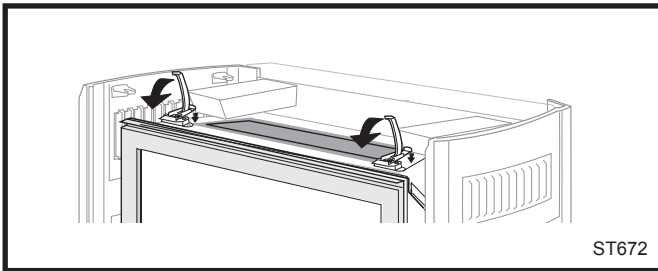

Fig. 22 Set glass frame in place and secure latches.
8. Install glass frame assembly by resting the bottom edge of the frame on support brackets below the front opening of the firebox. Swing the top edge of the assembly toward the firebox, and center it. Fasten by closing the latches over the top left and right edges of the frame. (Fig. 22)